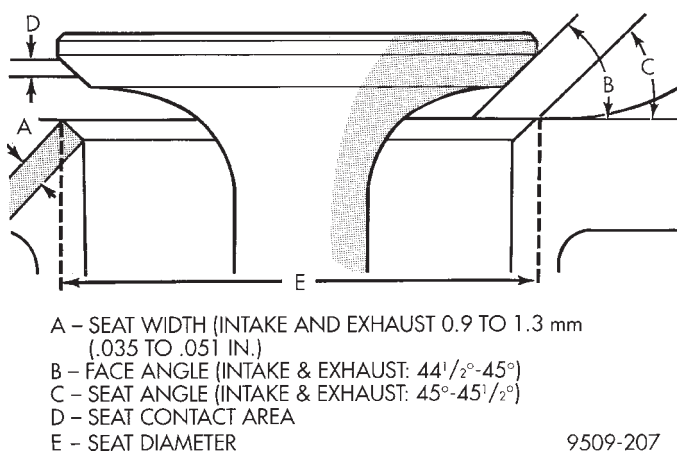

Fig. 107 Valve Seat Refacing
(6) Valve seats which are worn or burned can be reworked, provided that correct angle and seat width are maintained. The intake valve seat must be serviced when the valve seat width is 2.0 mm (0.079 in.) or greater. The exhaust valve seat must be serviced when the valve seat width is 2.5 mm (0.098 in.) or greater. Otherwise the cylinder head must be replaced.
(7) When seat is properly positioned the width of intake and exhaust seats should be 0.75 to 1.25 mm (0.030 to 0.049 in.) (Fig. 107).